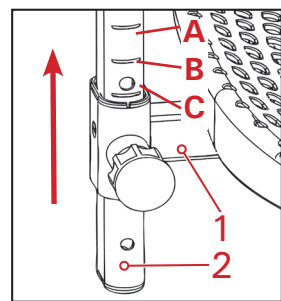
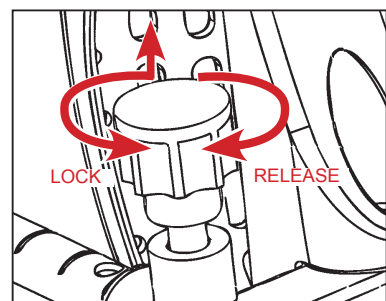

Figure 6
Figure 7
- Release the knobs so that they engage a hole setting (Figure 6). Should the knobs be locked in the “out” position, simply rotate clockwise to release (Figure 7).
Note: Refer to the Owner’s Manual for an explanation of the hole settings. If you are unsure, use Setting C (Figure 6) to start.